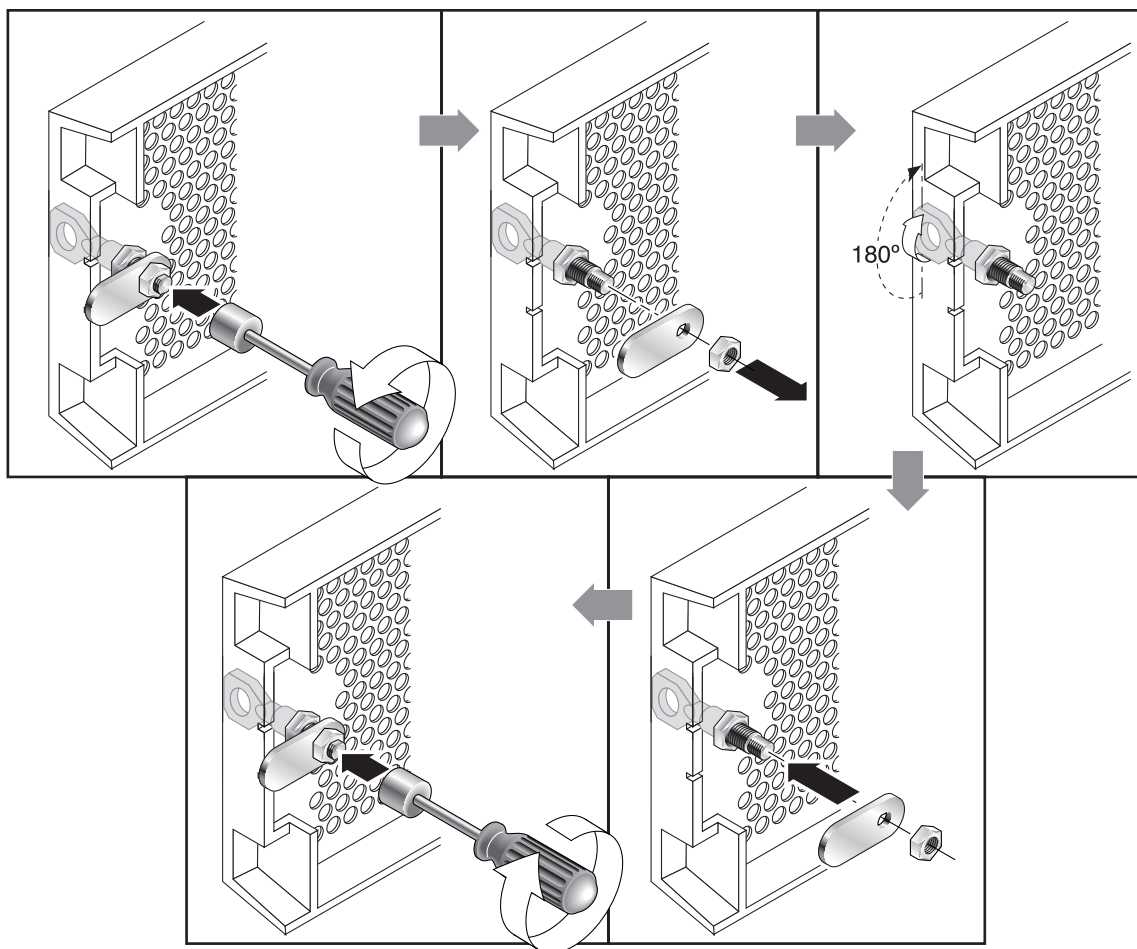

FIGURE 4-2 Sequence of Steps to Change Front Bezel Locks So Keys Cannot Be Removed
3. Hold the key in place and use a 12-mm or 3/8-inch nut driver to remove the locking nut that holds the pawl in place, as shown in the first panel of FIGURE 4-2.
4. Lift the pawl off the threaded part of the lock body, as shown in the second panel of FIGURE 4-2.
6. Use the key to turn the lock 180 degrees, as shown in the third panel of FIGURE 4-2.
7. Replace the pawl in the same orientation as before, as shown in the fourth panel of FIGURE 4-2.
8. Hold the key in place and use the nut driver to refasten the locking nut that holds the pawl in place, as shown in the fifth panel of FIGURE 4-2. Be careful not to cross-thread the nut.